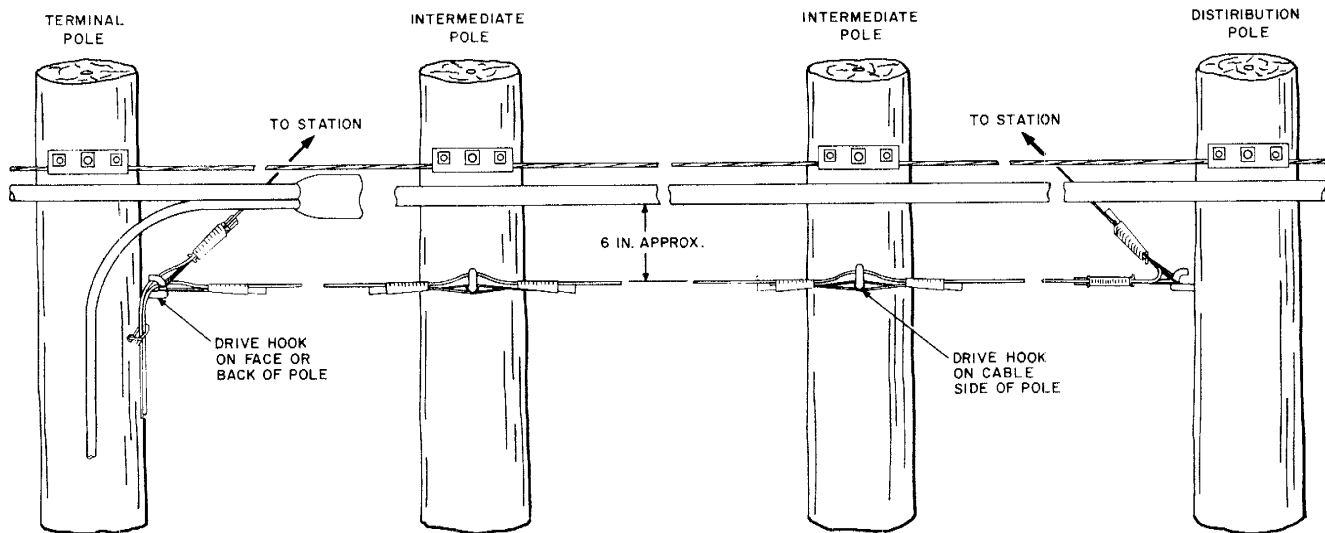

Fig. 4—Drop Wire Run Along Lead Carrying Cable
**3.03** Run drop wire below the cable as shown in Fig. 4.